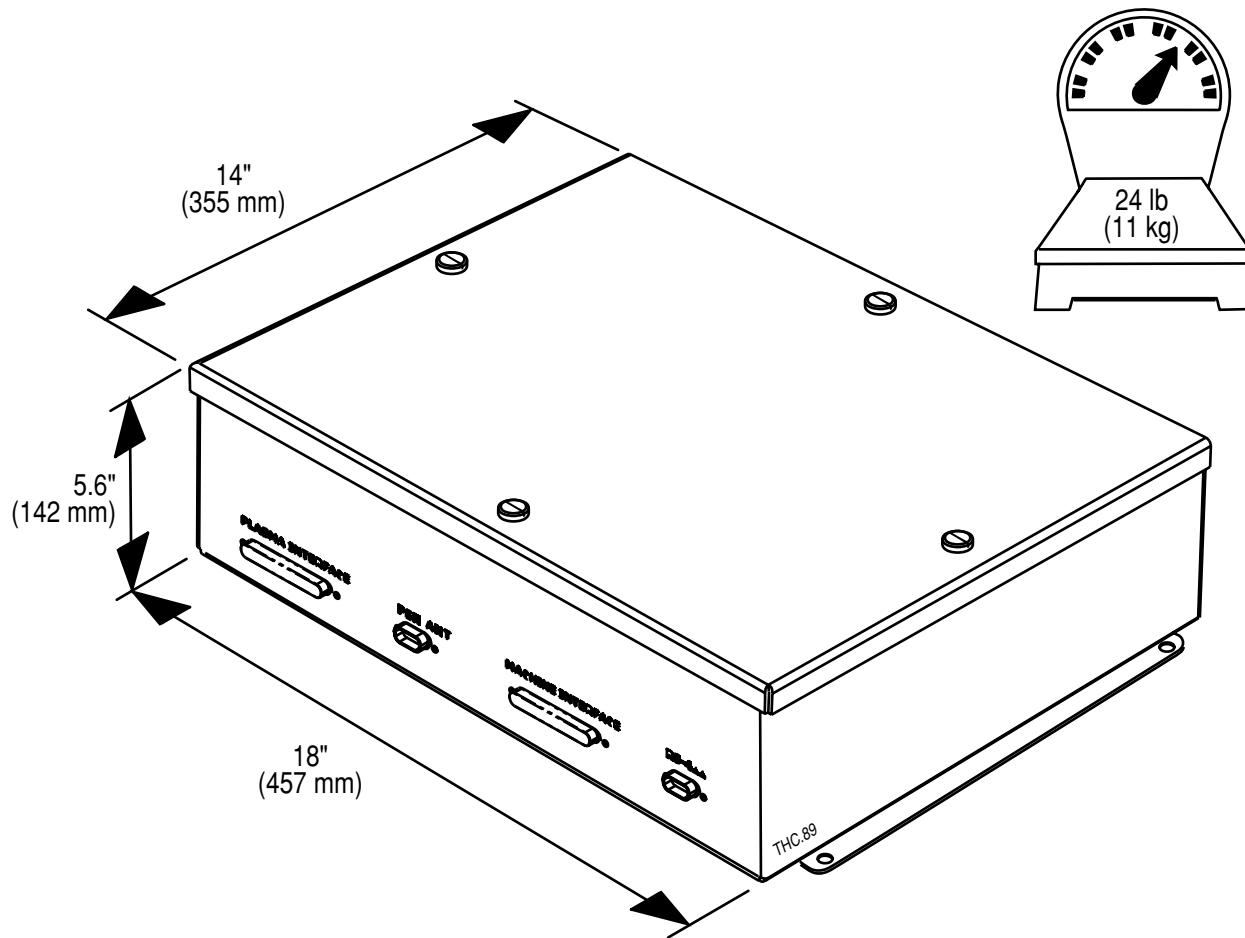

Figure 2-2 THC control module
- **THC control module** (Figure 2-2) The THC control module houses two microcontrollers: a real-time controller and an interface controller. This unit provides initial height sensing, arc voltage control and interfaces with the torch lifter, the CNC machine, operator pendant and the plasma power supply through standard and RS-422 serial interfaces.